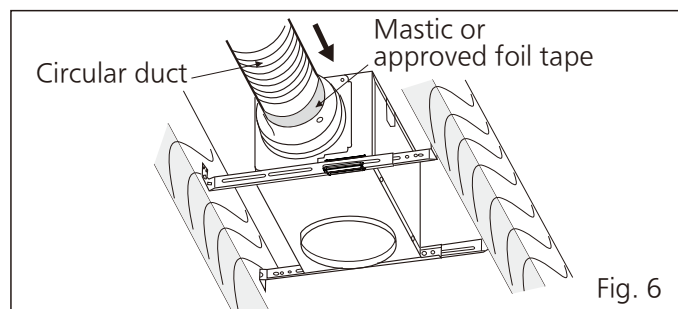

Fig. 6
11. Install a circular duct and secure it with clamps or wire ties, and seal it with mastic or approved foil tape. A 4 or 6-inch circular duct is needed to connect to the relevant part of adaptor. (Fig. 6)